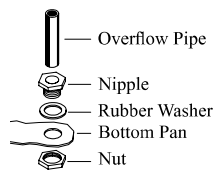

Fig. 4
- **Install overflow assembly.** Remove nut and place nipple through the hole in the pan, with the rubber washer between the pan and the head of the drain nipple (Fig. 4). Screw on nut and draw up tight against bottom of pan. Insert overflow pipe in nipple to retain water. Overflow pipe may be removed to drain pan when necessary. A garden hose may be screwed on the drain nipple to drain water away from your unit.